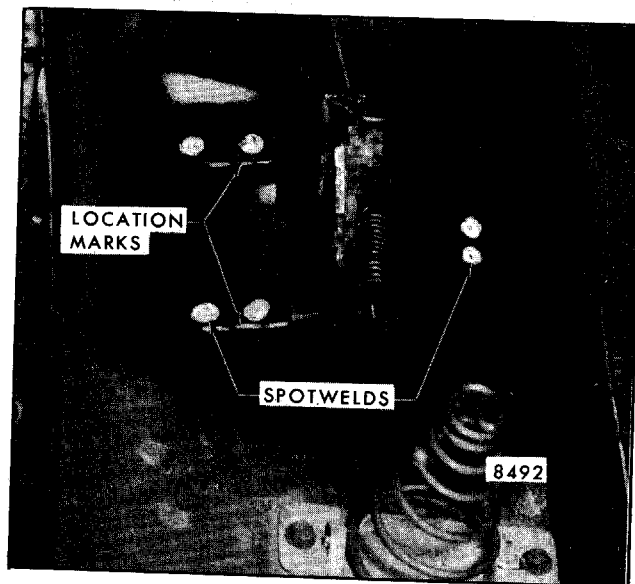

Fig. 4-27-Hood Latch Assembly - H-15 Style
The hood latch assembly on H-15 and 77 styles is mounted to the underside of the shroud upper panel with six spot-welds (Fig. 4-27). The latch is, therefore, not adjustable.
2. Mark position of right and left side of latch onto shroud upper panel, as shown in Figure 4-27 to provide proper location for replacement latch assembly.